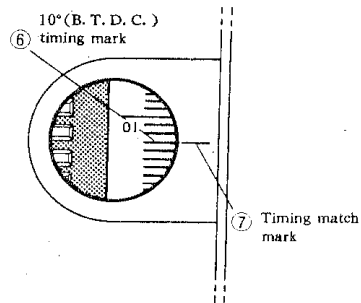

Fig. 8-23
With timing marks ⑥ ⑦ lined up as shown in Fig. 8-23, remove the cylinder head cover and check to be sure that No. 1 cylinder rocker arms are not riding on cam lobes. If the arms are up, turn over crankshaft by one rotation (360°) clockwise (as viewed from front side). This turning should cause the buzzer to sound off just when the marks come into alignment.
- 2) Bring timing mark ⑥ into alignment with mark ⑦, as shown in Fig. 8-23. Mark ⑥ represents the 10° crank angle.